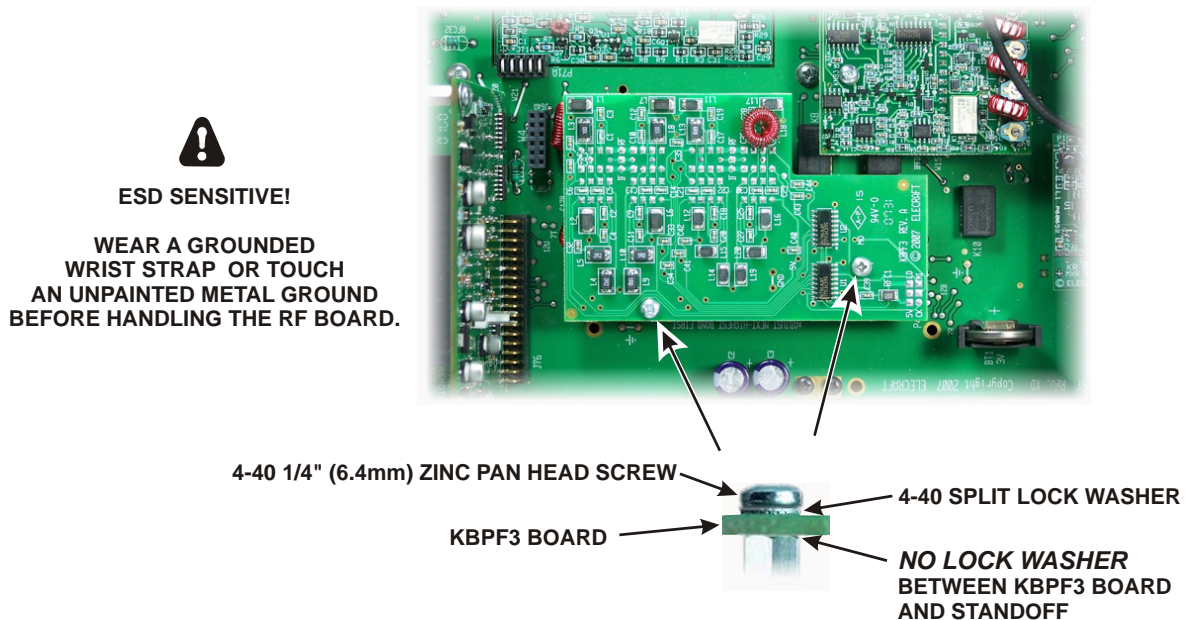

Figure 4. Mounting the KBPF3 Board.
- Attach the KBPF3 board with a 4-40 1/4" (6.4 mm) zinc pan head screw and lock washer at each standoff as shown in Figure 4.